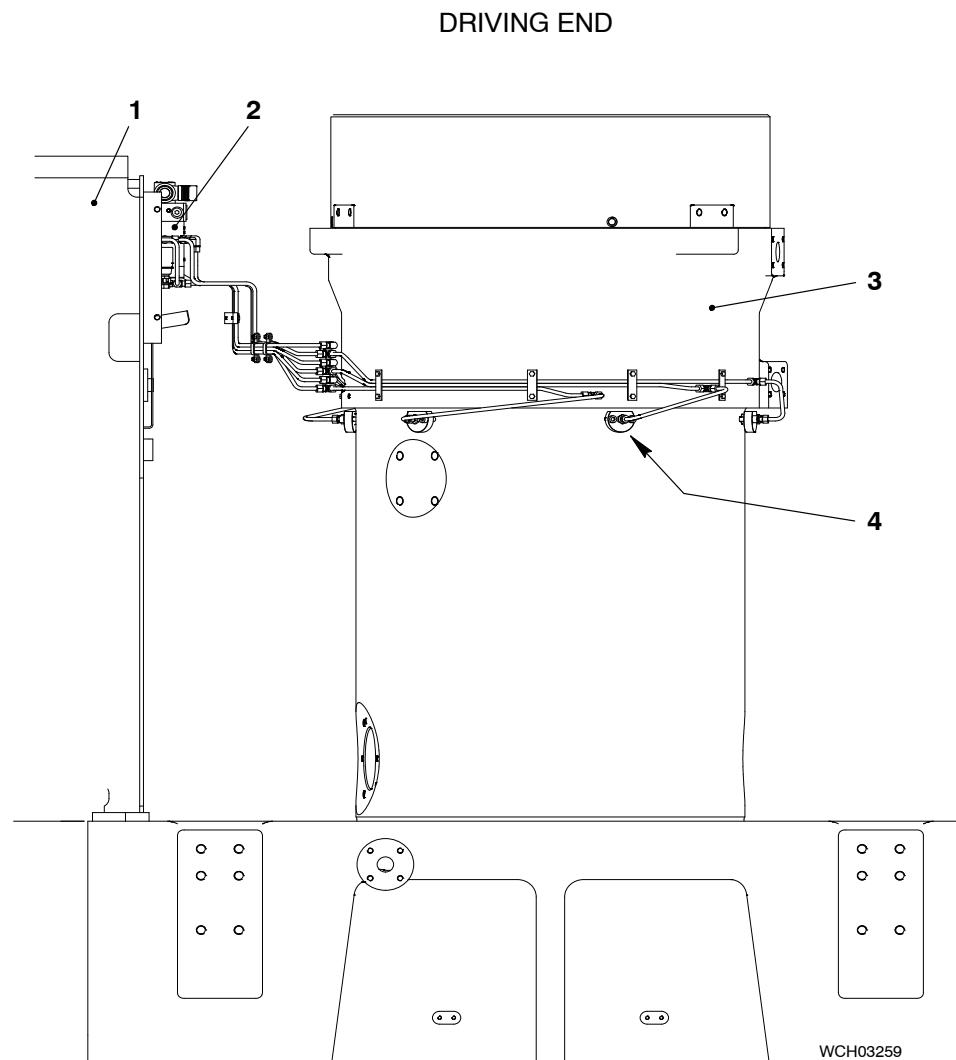

Fig. 1: Lubricating Quills – Location
Six lubricating quills (4, Fig. 1) are installed around the circumference of the cylinder liner (3). The lubricating pump (2) installed on the rail unit (1), supplies lubricating oil through pipes to each lubricating quill (4).